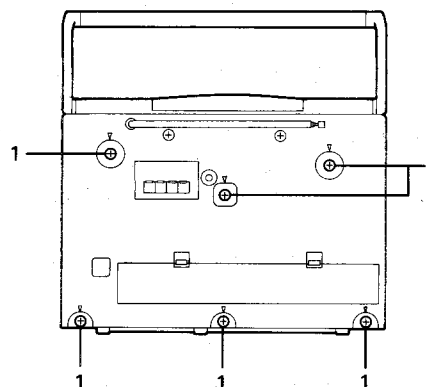

Fig. 7-1
■ Front Cabinet Assembly (refer to Fig. 7-1, 7-2)
1. Remove the six screws ① retaining the rear cabinet assembly of the body.
2. Remove the two screws ② retaining both sides of the front cabinet assembly.